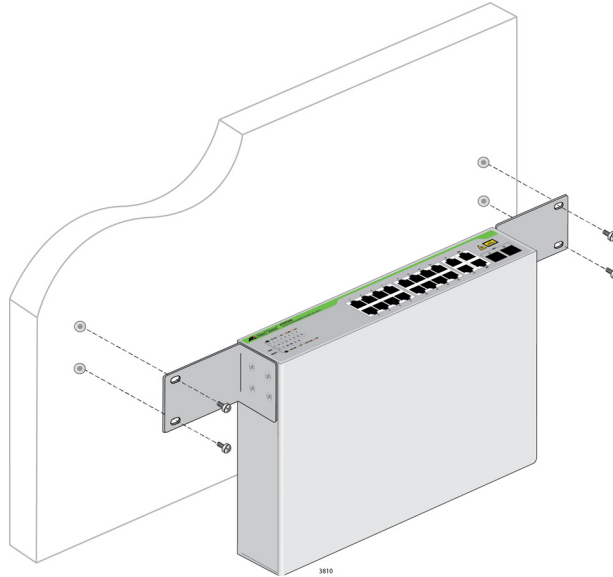

Figure 10. Securing the Switch to the Wall
6. While another person holds the switch at the wall location, secure it to the wall using the four wall mounting screws. See Figure 10 on page 37.